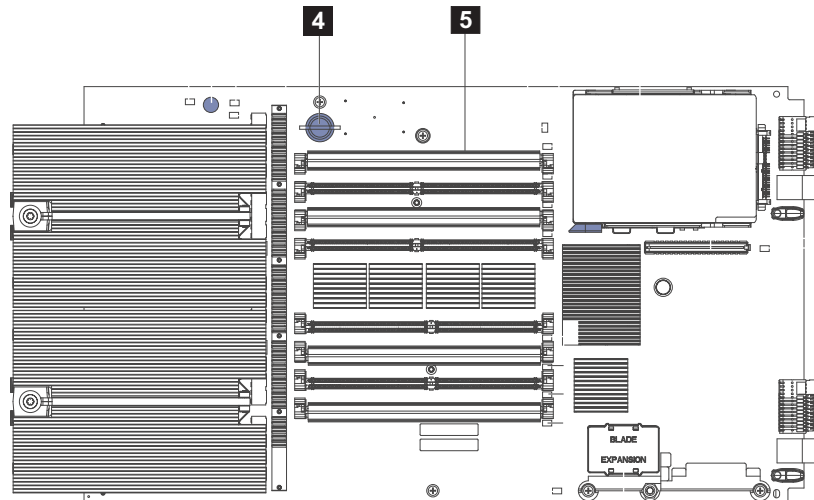

Figure 12. Expansion blade DIMM 1 slot and the expansion blade retention screw
8. To access the expansion blade retention thumb screw (shown by **4** in Figure 12), remove the DIMM in DIMM slot 1 (**5**), as described in “Removing a memory module” on page 34.